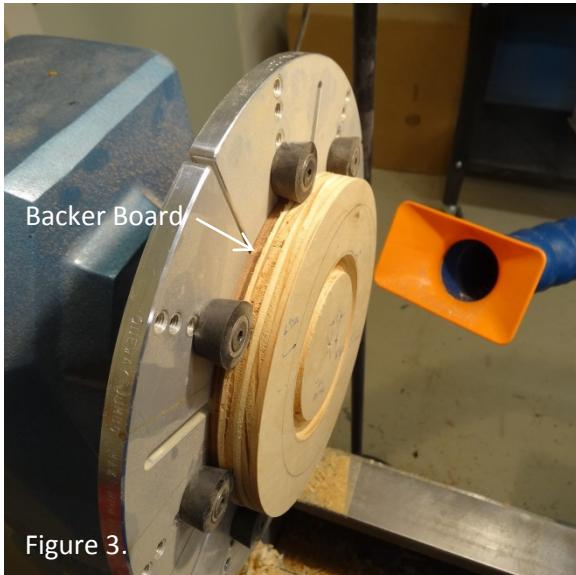

Figure 3.
3. Mount it between centers using the small hole and round the outer 7" diameter. Mount it in jumbo jaws or a Longworth chuck with a thin backer board so you do not cut into the chuck (Figure 3) and carefully cut out the 4" circle with a parting tool, being careful to keep waste inside the 4" diameter. Cleanup to the edge of the 4" line with a scraper. Make sure that the cut is perpendicular to the face